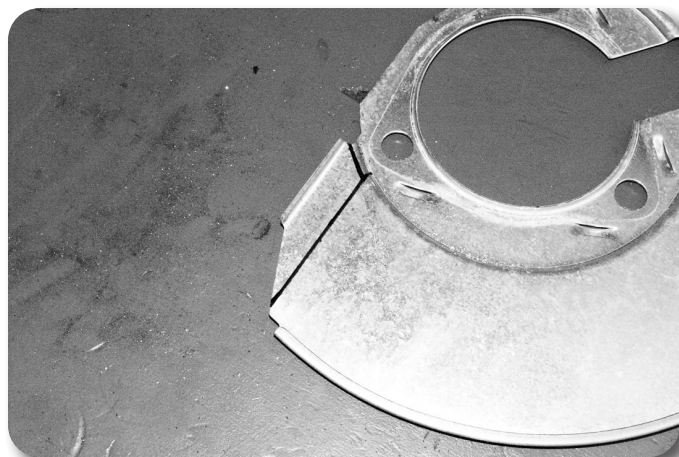

Figure 22
42. The brake dust shield needs to be trimmed. Measure in from the lower vertical edge (opposite the ABS sensor location) 3/4" and make a vertical cut line along the entire flat section **Figure 22**. Cut the mark section off of the brake dust shield.